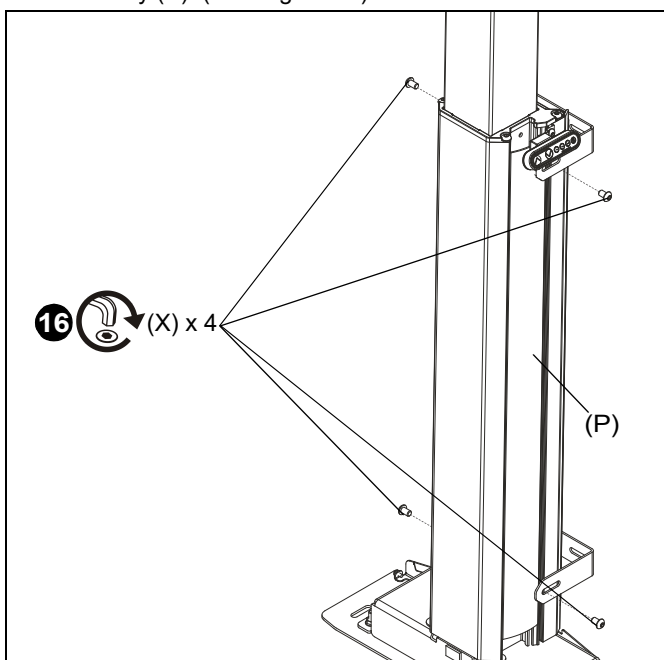

Figure 18
16. Install four 5/16-18 x 5/8" button head cap screws (X) through holes on wall brackets (B1) and side of column assembly (P). (See Figure 18)